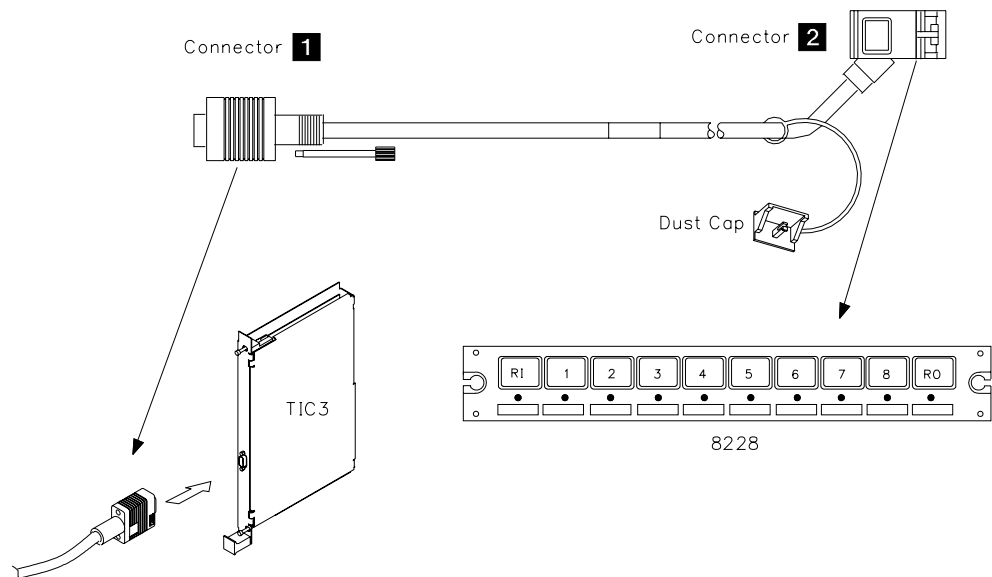

Figure 2-24. Connection of the 8228 to a TIC3
- e. ____ Plug connector **2** to one of the 8228 LAN adapter plugs 1 to 8 (Refer to Figure 2-24 below).